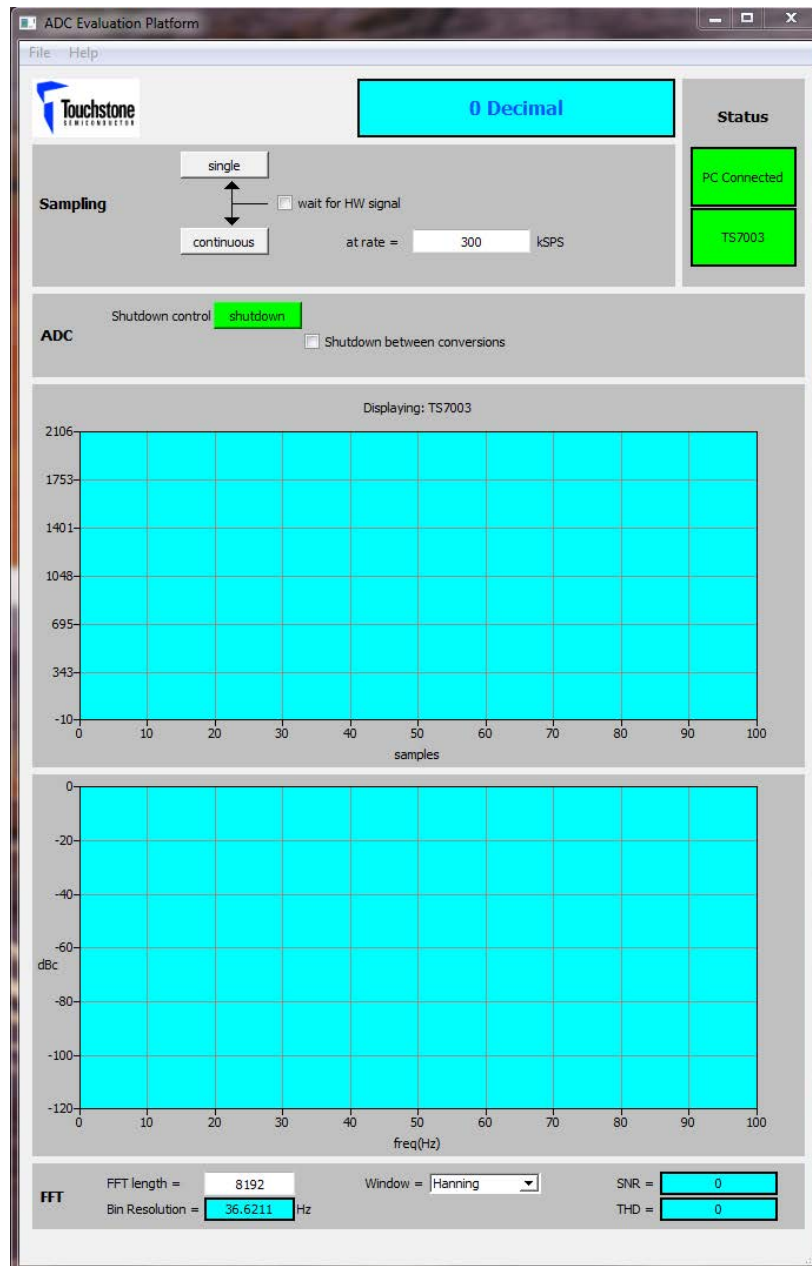
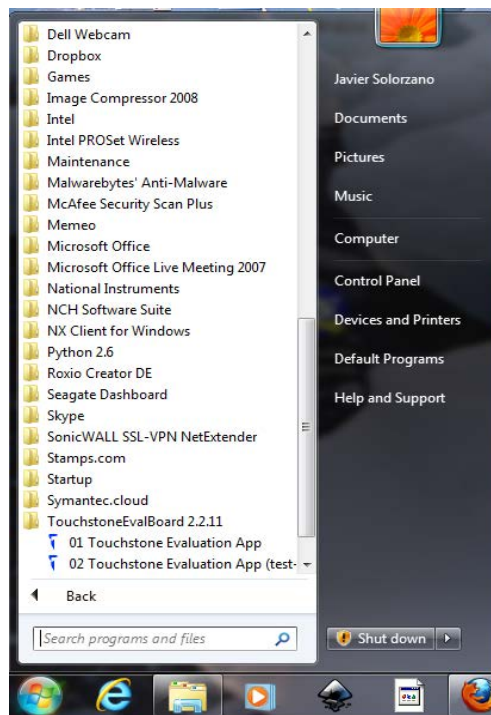

Figure 2. GUI with Nano River Tech Viperboard and TS7003 Demo Board Connected
Figure 4. GUI Executable File Location
6. To run the GUI, go to *Start > All Programs > TouchStoneEvalBoard 2.2.11 > 01 Touchstone Evaluation App*. Refer to Figure 4. The GUI will ask you if you wish to use the last configuration – Click No. Refer to Figure 2. After approximately three seconds, the "status" section on the top right hand side of the GUI screen should read "PC Connected" and the demo board type for the ADC should appear. For example, in Figure 2, the TS7003 demo board is used and as a result, the demo board type reads "TS7003".